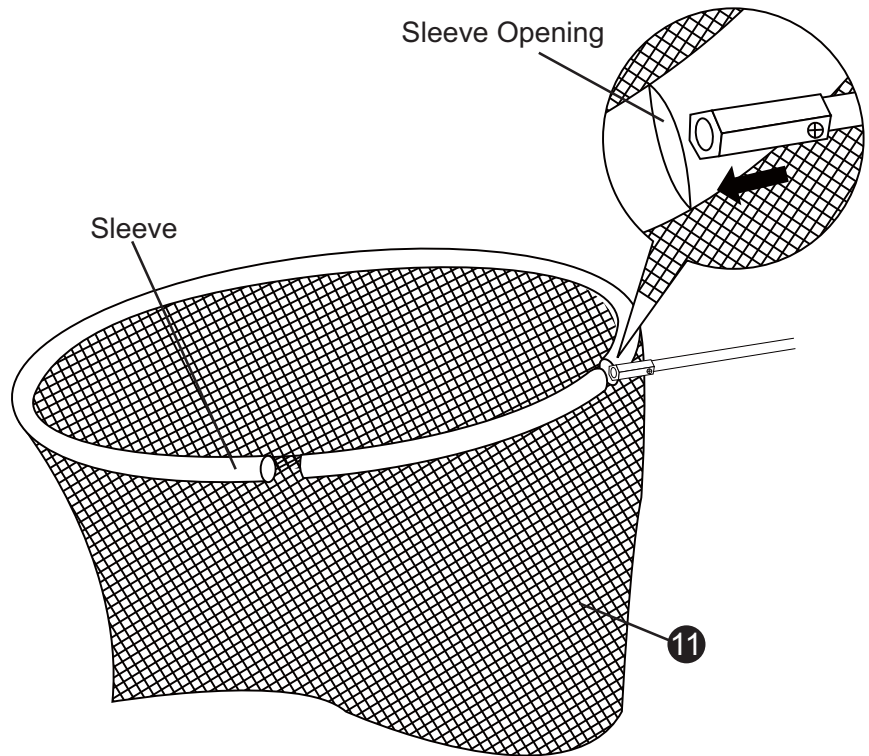

FIGURE 19
**A.** Insert the assembled CABLE WIRES into sleeve on the top part of the 11 Enclosure Netting as shown in FIGURE 19.